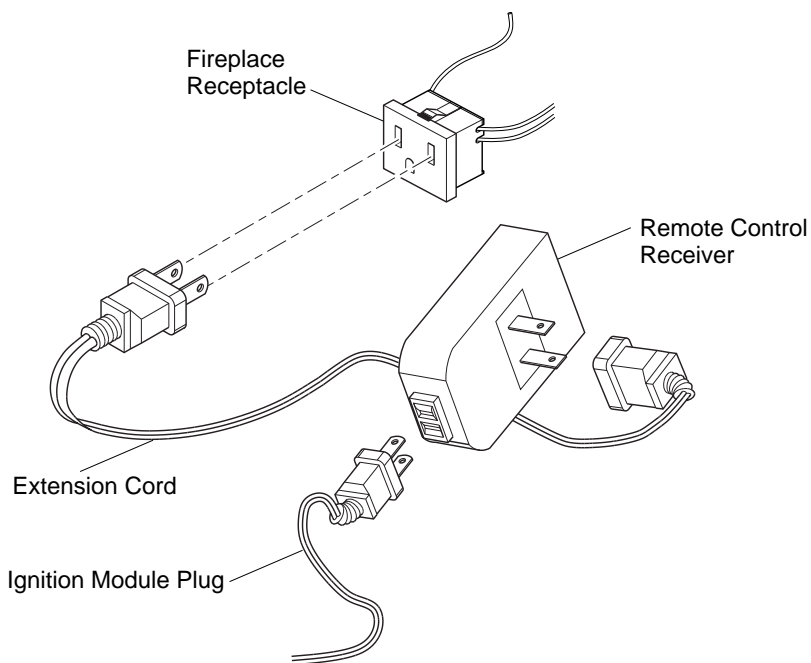

Figure 12 - Installing the WRC Remote Receiver
1. The WRC model receiver does not require a battery. The receiver can be installed by first plugging the short extension cord into the fireplace receptacle. Then plug the receiver unit into the extension cord. Finally plug the ignition module plug into the receiver unit (see Figure 12).